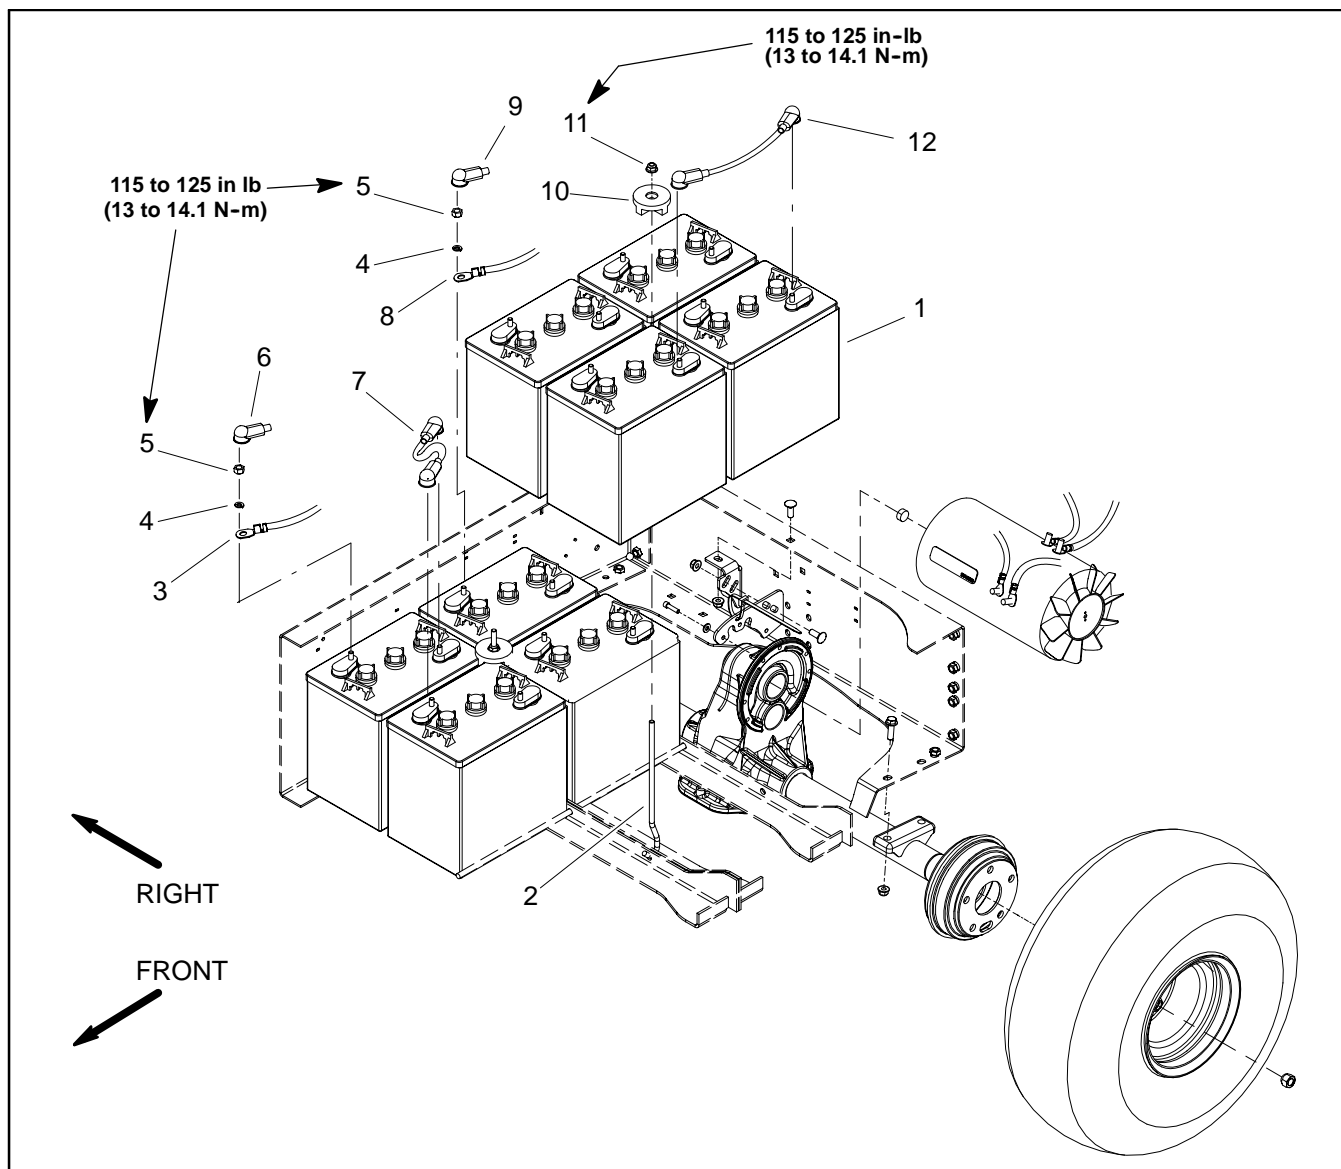

Figure 43
Removal (Fig. 43)
Installation (Fig. 43)
5. Install all but one of the battery cables used to connect battery pack including the positive (red) cable and negative (black) cable from vehicle (Figures 43 and 45). Make sure that cables are connected to correct battery terminal noting battery polarity. Install lock washer and nut on each battery terminal. Torque nuts from 115 to 125 in-lb (13 to 14.1 N-m) to secure cables.